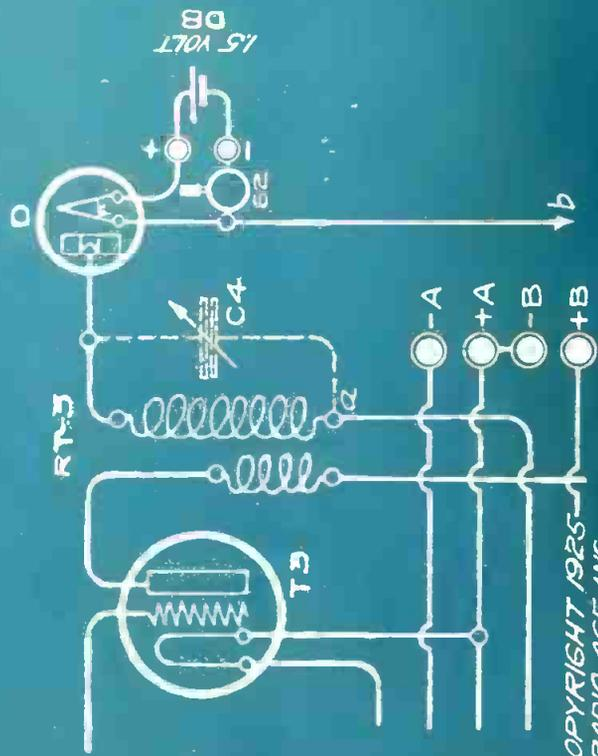

FIG. 2A
IN Fig. 2A is a small corner of the circuit drawn out to show how a two element diode tube may be used instead of the crystal detector. The relation of this sketch to the main diagram can be easily traced out by the location of the tube amplifier (T3), the radio frequency transformer (RT-3), and the optional variable condenser (C4). The two element tube is at (D) with the plate (M) and the filament (F). The negative filament of the tube and the plate (M) are connected into the circuit just as with the crystal. A separate single 1.5 volt dry cell (DB) supplies current to the filament of the diode tube and is provided with a second cutout switch (S2). The terminals (a-b) are connected to the primary coil of the audio transformer (AT-1) as before.